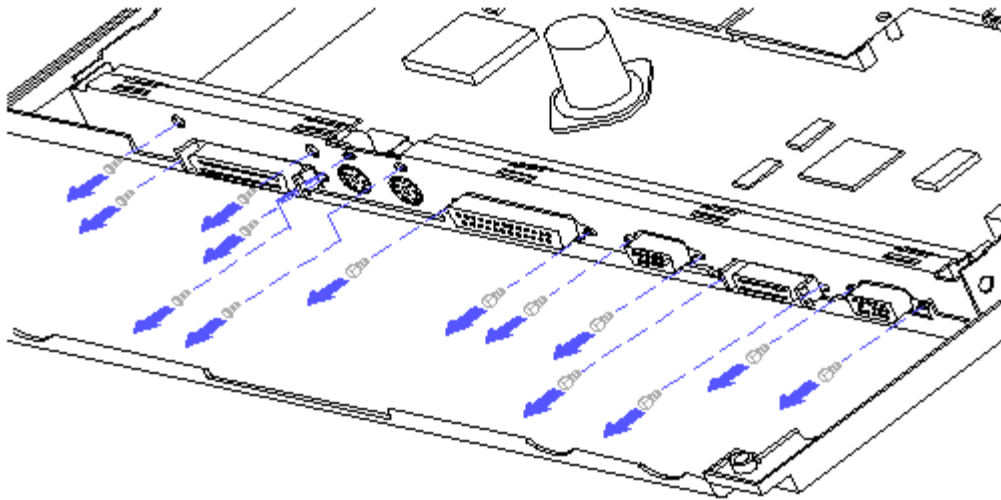

Figure 4-11. Removing the Screw Locks and Screws
5. Remove the screw locks and screws from I/O bulkhead (Figure 4-11).